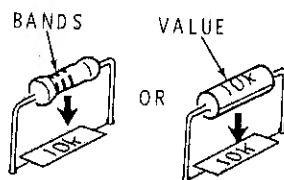

Figure 1
1. When you install resistors, always position each resistor so you can read the bands on the resistor in the same direction as you can read the printing on the circuit board (see Figure 1). For resistors that have the value printed on them, instead of color bands, install them so the values are facing away from the circuit board and read in the same direction as the printing on the board.